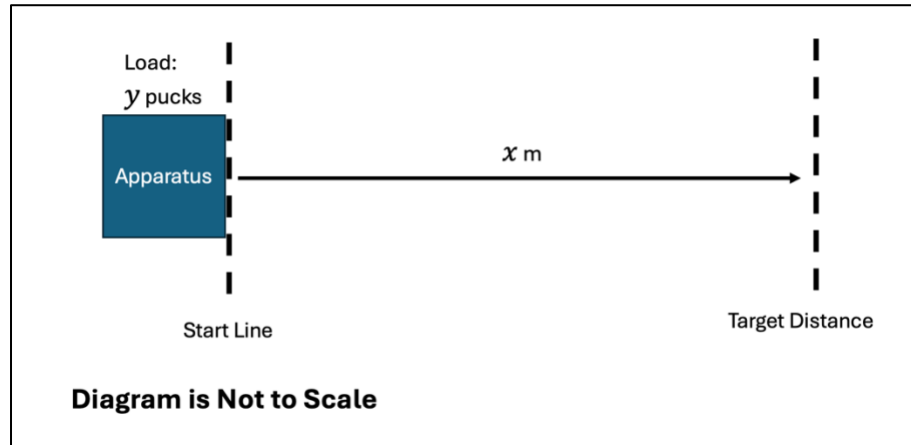

Figure 4: Diagram of Round 3: The Contract Haul
Each team will have three (3) attempts to transport an unknown load of y hockey pucks to an unknown destination of x metres (see **Figure 4**), without exceeding the target destination length. The possible range of y is 2-6 hockey pucks, and the possible range of x is 10-20 metres. A random number generator will determine both the numbers. The load and destination will be the same for all teams in Round 3. In Round 3, each team will initially have 5 minutes to set up their apparatus before their allotted runs. All other teams will be unable to operate their apparatus until their turn in the round. Each team will then have 2 minutes in between each run, or they forfeit the run.